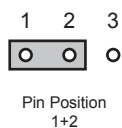

Figure 2.2 J7 — Default Position
- Pin 1 (left) + Pin 2 (center) position** — In this position, the analog reference is terminated with an 75ohm resistor. This configuration is to be used for point-to-point cabling, or on the last card of a daisy chain topology. This is the default position (**Figure 2.2**).
- **Pin 1** (left) + **Pin 2** (center) position — In this position, the analog reference is terminated with an 75ohm resistor. This configuration is to be used for point-to-point cabling, or on the last card of a daisy chain topology. This is the default position (**Figure 2.2**).